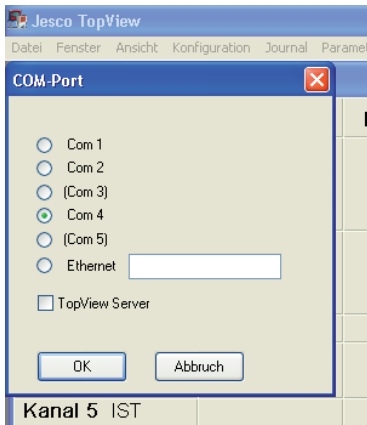

Fig. 4.3: Selecting the port for the connector converter
- Select the port at which the connector converter for the RS-485 bus network is located. Click "OK" to confirm your entries (see Fig. 4.3)